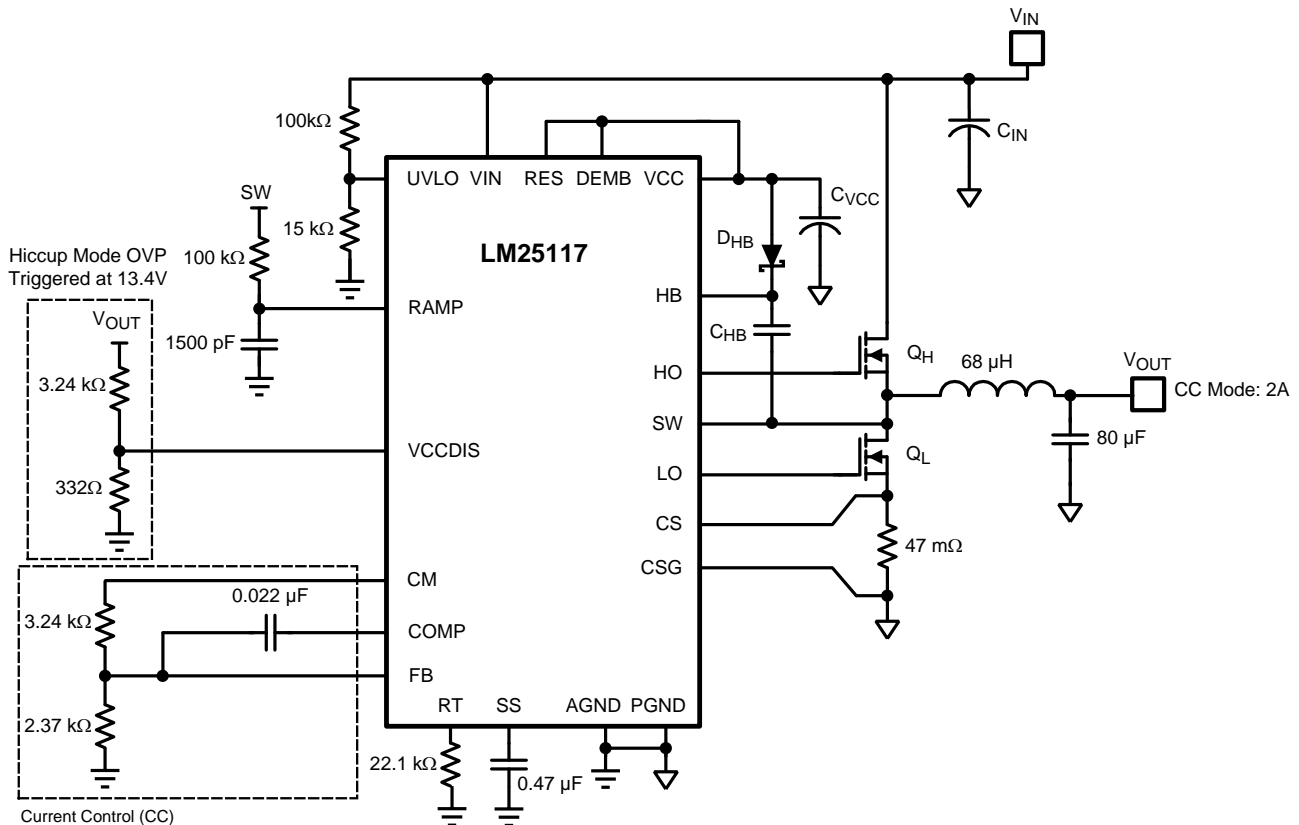

Figure 36. Constant Current Regulator with Hiccup Mode Output OVP
The LM25117 can be configured as a constant current regulator by using the current monitor feature (CM) as the feedback input. A voltage divider at the VCCDIS pin from VOUT by AGND can be used to protect against output over-voltage. When the VCCDIS pin voltage is greater than the VCCDIS threshold, the controller disables the VCC regulator and the VCC pin voltage decays. When the VCC pin voltage is less than the VCC UV threshold, both HO and LO outputs stop switching. Due to the time delay required for VCC to decay below the VCC UV threshold, the over-voltage protection operates in hiccup mode. See Figure 36.